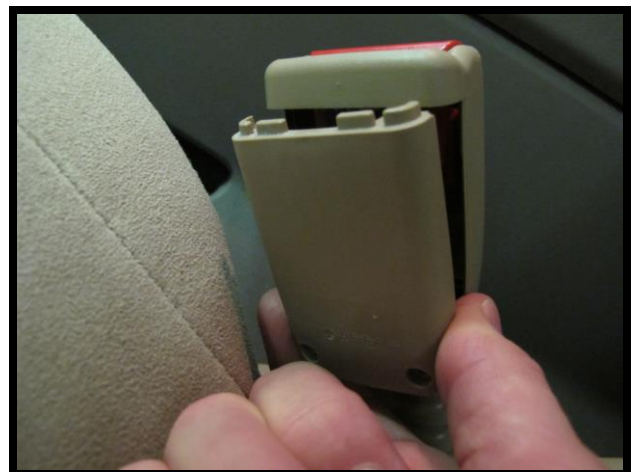

Figure 3
- Gently pull cover out from the bottom, then push down to release the buckle cover, refer to Figure 3.